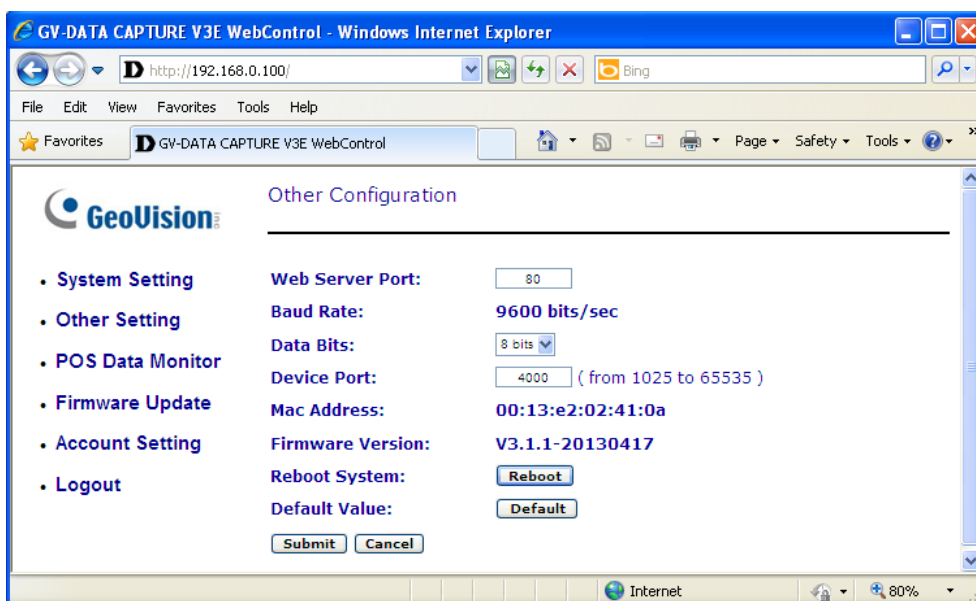

Figure 22
5. In the Device Port field, keep default value **4000**. Or modify it to match that of the POS system (see *Figure 22*).
3. In the Device Port field, keep default value **4000**. Or modify it to match that of the POS system (see Figure 22).
- In the Device Port field, keep default value **4000**. Or modify it to match that of the POS system (see Figure 22).